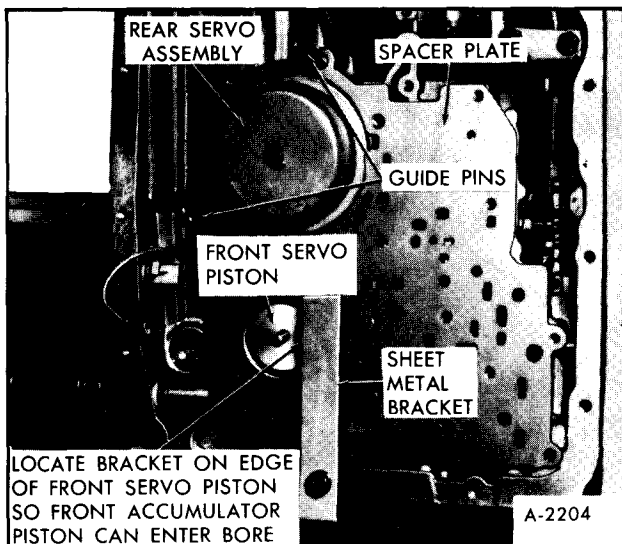

Figure 95—Spacer Plate Holding Bracket
**NOTE:** If the transmission is in the vehicle, a sheet metal bracket will be required to hold the rear servo assembly, front servo assembly, check balls, valve body to spacer plate gasket and valve body spacer plate, until the control valve assembly is installed. See Figure 95.